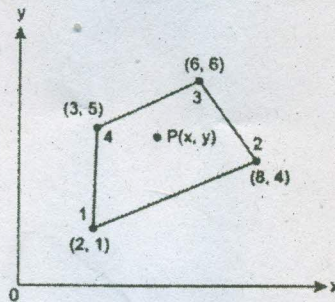

Fig 15(a)
15. (a) For the isoparametric quadrilateral element shown in Fig.15(a), the Cartesian coordinates of point 'P' are (6,4). The loads 10 kN and 12 kN are acting in  $x$  and  $y$  direction on that point P. Evaluate the nodal forces. (16)